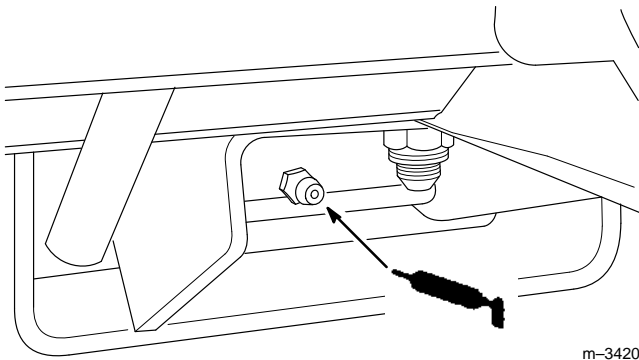

Figure 31
- Grease the fitting on the brake pedal (Fig. 31).